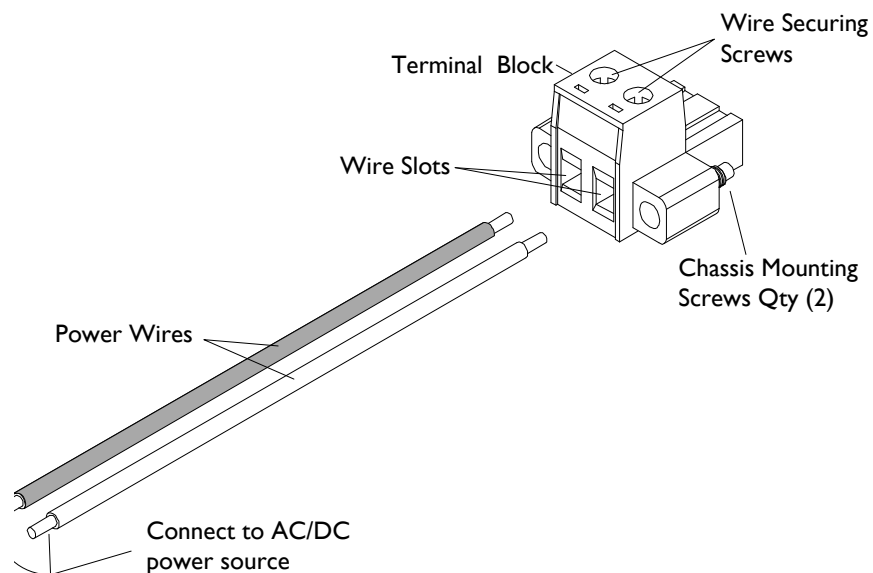

Figure 11: Connect Power Wires to Terminal Block and Power Source
2.	Insert the positive and negative power wires into V+ and V- contacts respectively of the terminal block (note polarity on the chassis of the switch). Make sure the wires are secure. See Figure 11.
3.	Insert the positive and negative power wires into V+ and V- contacts respectively into the power source—make sure the wires are secure. See Figure 11. Insert the positive and negative power wires into V+ and V- contacts respectively into the power source—make sure the wires are secure. See Figure 11.